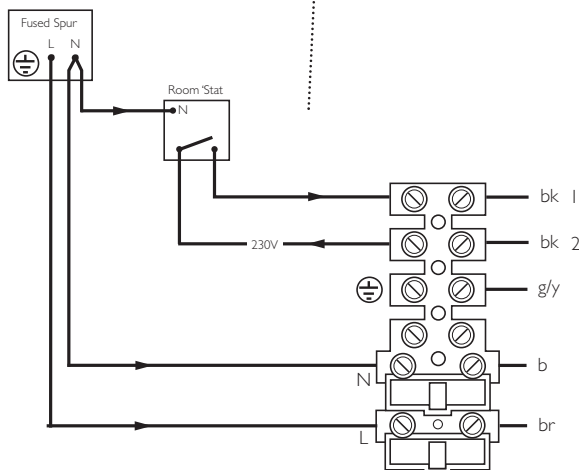

Fig. 56
4. Slacken the unused cable clamp on the LH side of the boiler chassis (Fig. 56). Insert the external control wiring through the clamp and route it to the terminal block.